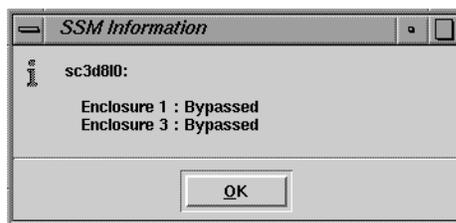

Figure 5-4 Describe Faults Window
2. Select Describe Faults... in the Array menu in the Storage System Manager or Array Configuration window. (This choice is also available in the Array menu in the Components For Array or Equipment View windows.) Figure 5-4 shows an example.